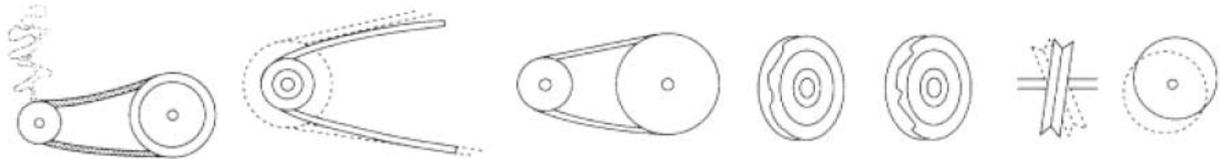

Figure 131: Unfavourable operating conditions (2)
- Slippage / pulley too small / overloading / damaged disc / eccentricity, wobble – **Figure 131**